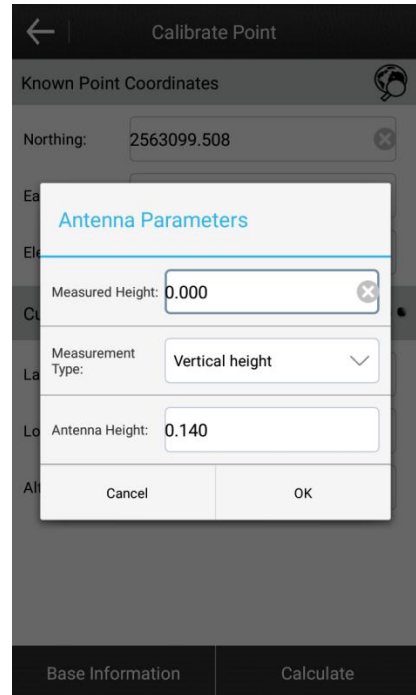

Figure7-9
2. Please input the known point coordinates (the base coordinates before conversion). There are two methods to input the coordinates: Click  to get the coordinate from the points library. Or input the northing, easting and elevation directly. Click “current base coordinates” to set the antenna parameters, please refer to Figure 7-9.